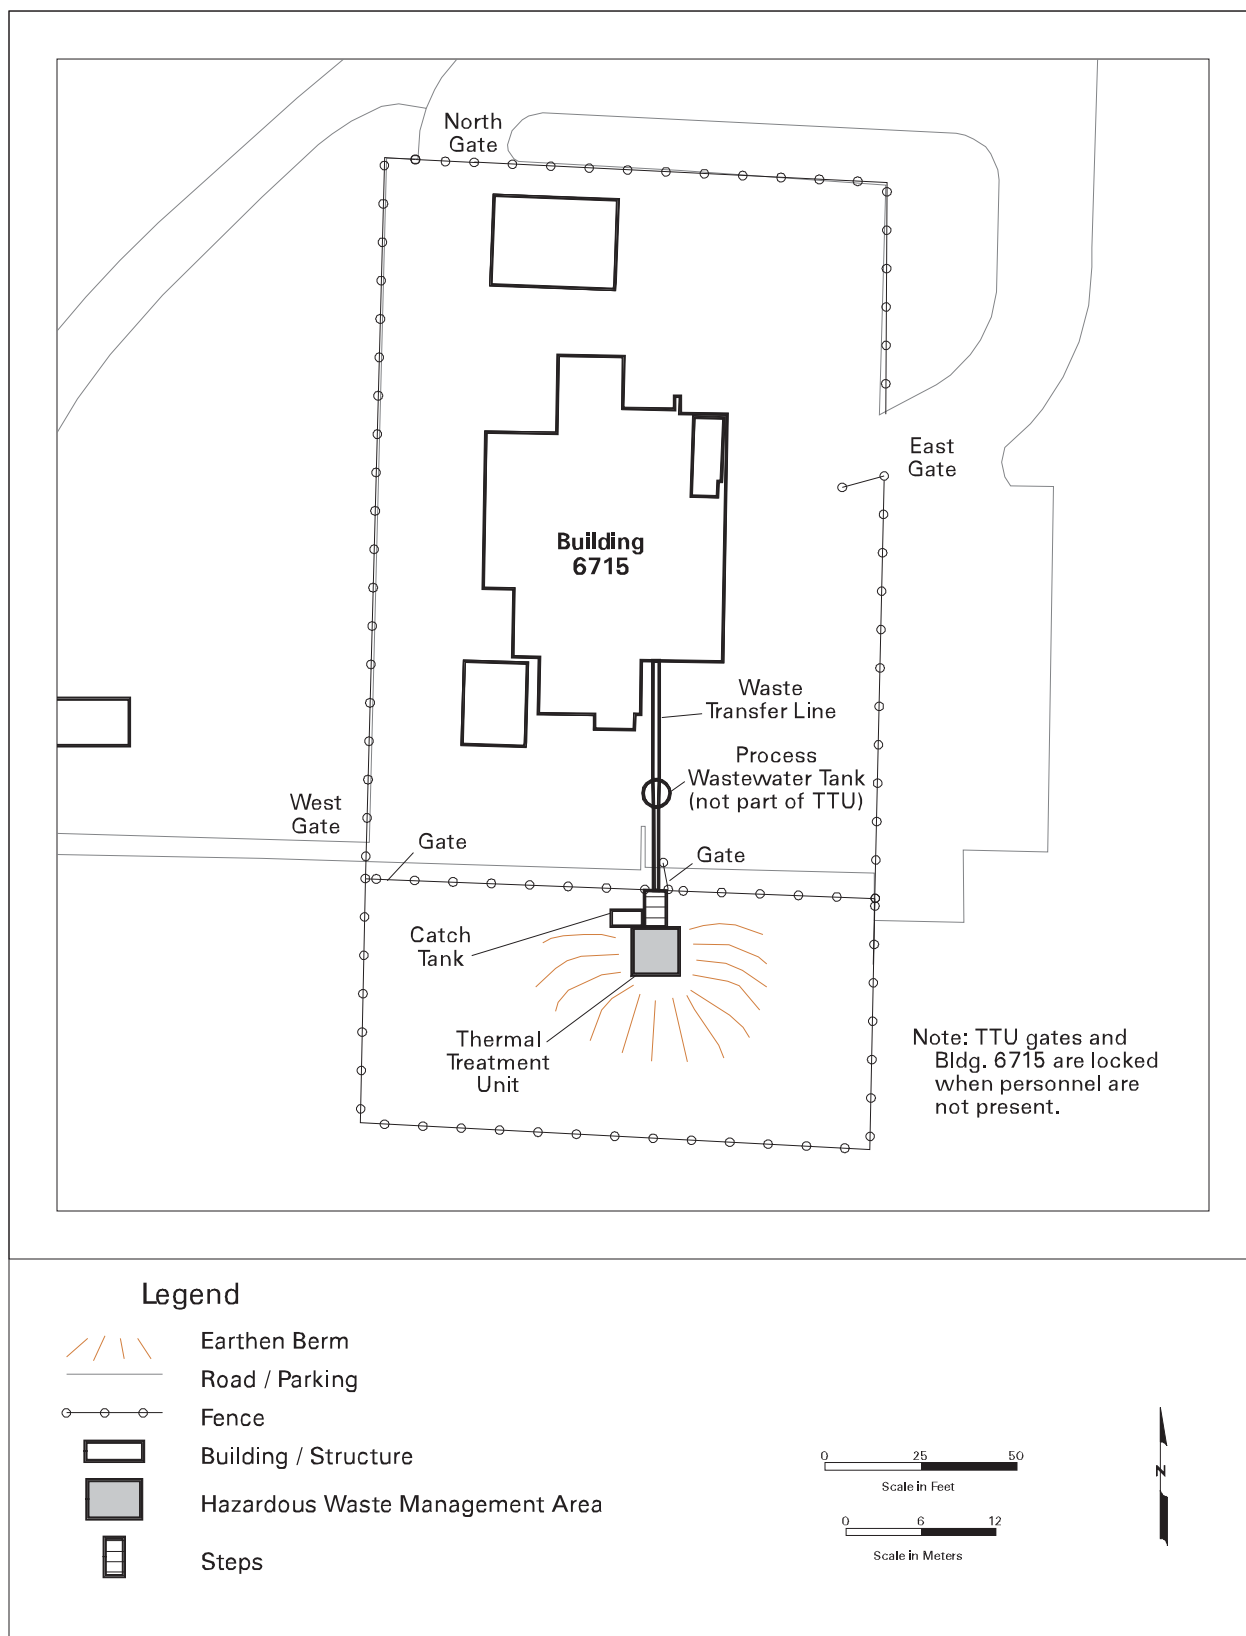

Figure 10
- Figure 10: Thermal Treatment Unit (TTU) Hazardous Waste Management Area